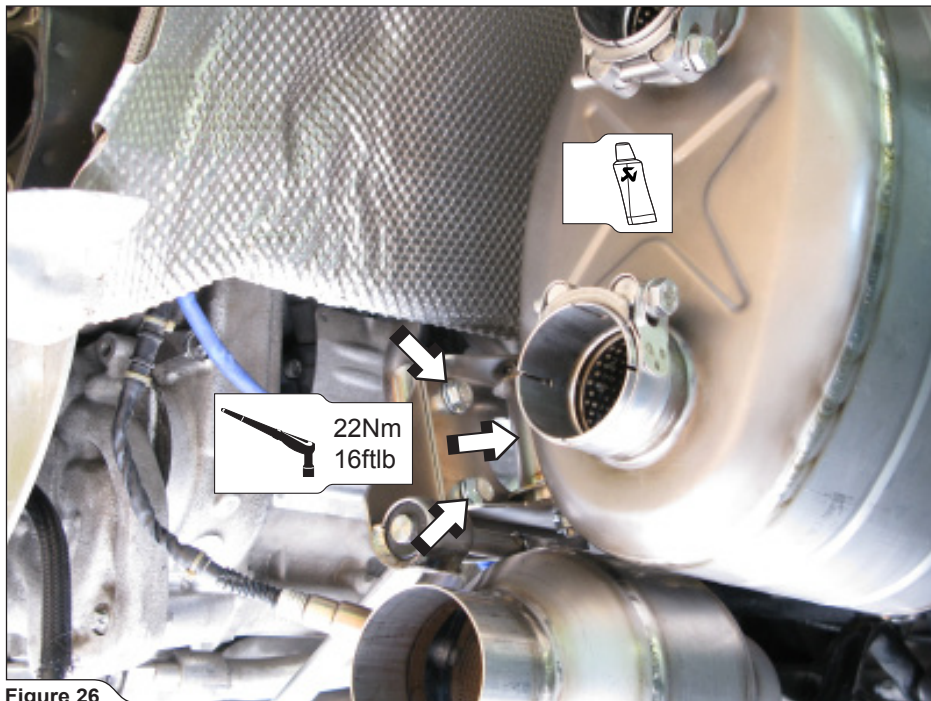

Figure 26
8. **For Evolution:** tighten the side-mufflers on both sides of the vehicle, using three Akrapovič M8x16 bolts and M8 nuts per side (**Figure 26**).